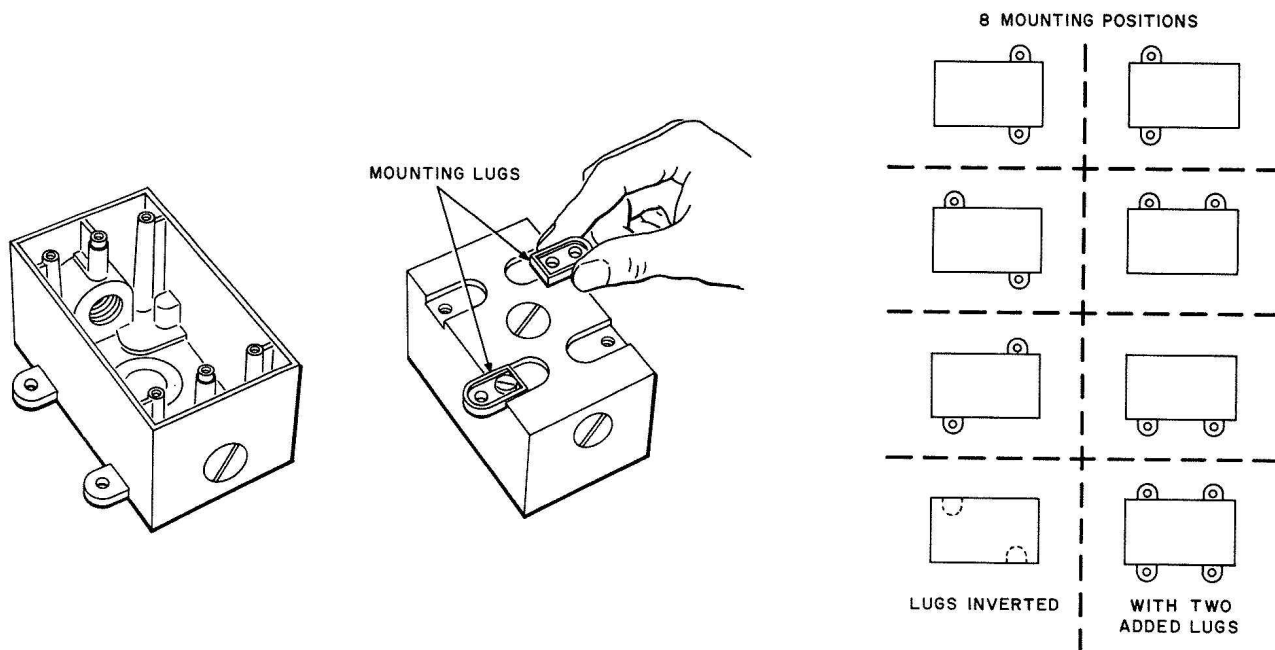

Fig. 31 — Outlet Box Showing Reversible Mounting Lugs
3.11 The outlet box of the List 4 housing is equipped with two mounting lugs which may be removed and placed in various mounting positions during the installation process. Fig. 31 shows the box and mounting lugs and eight of the possible mounting positions. The box may be used for surface or flush mounting.